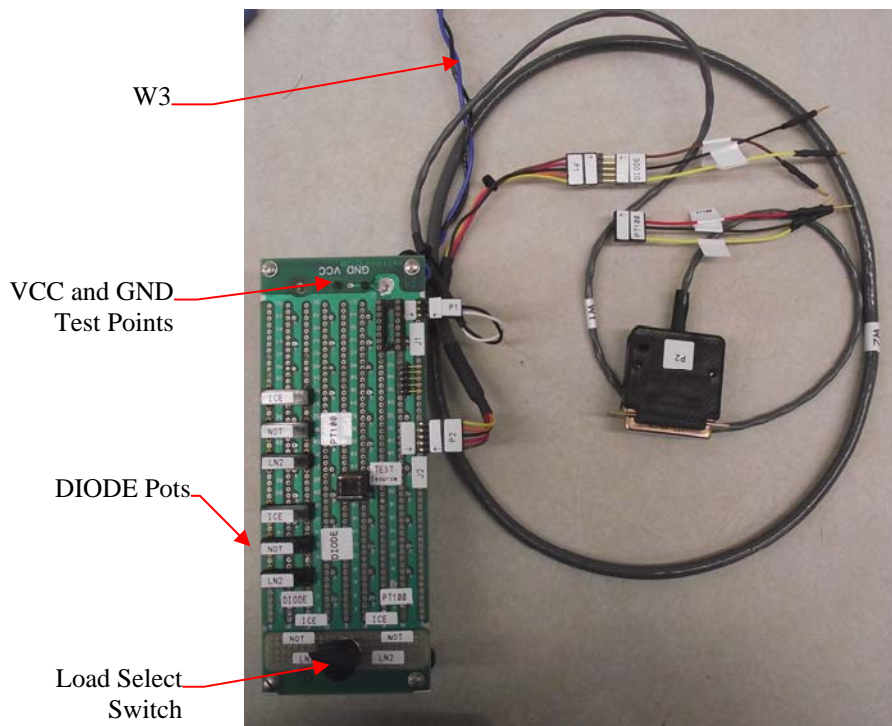

Figure 2. Temperature Resistor Load Test Fixture
- Step 2.2 Locate the Input Power Connector Cable, W3 on the Temperature Resistor Load Test Fixture. Refer to Figure 2.
Step 3.1.4 Insert the Resistive Load leads to CH2 Temp Sensor pads “2V+” and “2V-“ of the Trans Utility Board. Refer to Figure 2 for locations.
Step 3.2.1 Insert the Resistive Load leads to CH1 Temp Sensor pads “1V+” and “1V-“ of the Trans Utility Board. Refer to Figure 2 for locations.